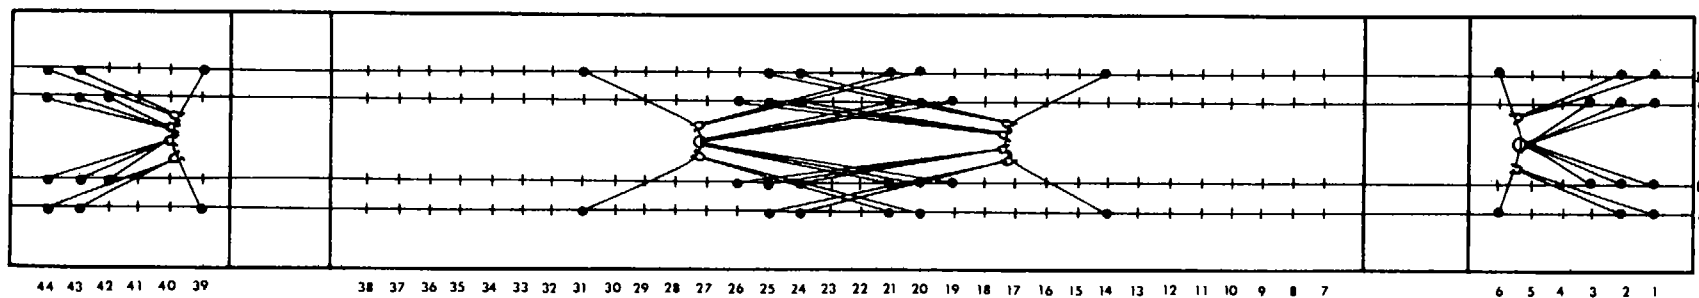

Figure 7-4. Diagram for applying the necklace method to secure tiedown chains and hardware of DODX 140-ton flatcar, without a load.
e. Chains, shackles, and links that are not in use must be secured to the DODX 140-ton flatcar in a way that will prevent them from becoming free, endangering material or persons along the right-of-way of the railroad. As shown in figure 7-4, chain anchors must be moved to A6, A1, A2, B1, B2, B3, C1, C2, C3, D6, D1, and D2. Chains from anchors A6 and D6 must be placed across the flatcar so that one chain passes through the link, attaching the hooks together about 6
repeated for chains on the opposite end of the flatcar by using necklace chain anchors in A39 and D39. Chains should be secured in the center section of the flatcar in the same way. As shown in figure 7-4, the chain anchors are in the location required for two tanks, with necklace chain anchors in A31, D31, A14, and D14. (When only one tank is loaded in the center of the